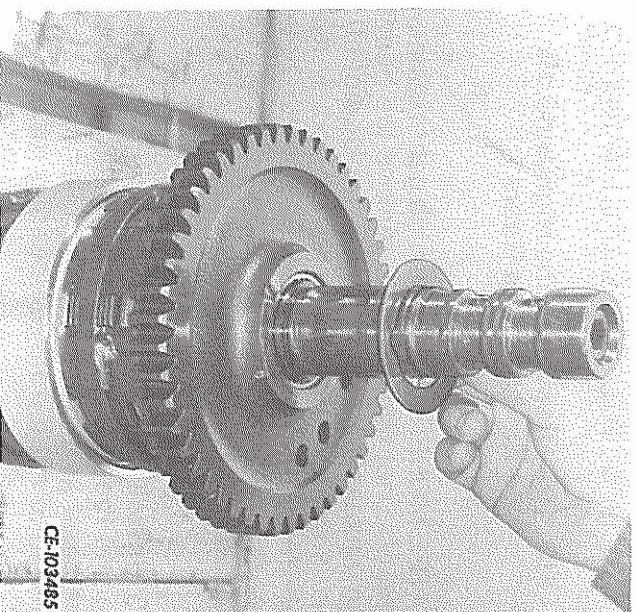
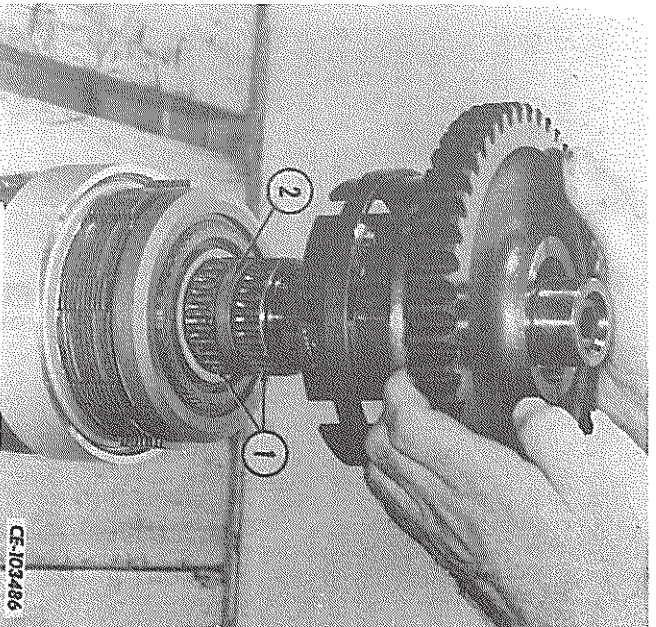

FIG. 44 — Removing the Second Speed Drive Gear Thrust Washer
FIG. 45 — Removing the Clutch Gear and Drum Assembly
33. Remove the second speed drive gear thrust washer from the shaft (Fig. 44). Slip the clutch gear and drum assembly from the shaft (Fig. 45). Remove the two caged roller bearings (1, Fig. 45) and bearing spacer (2).